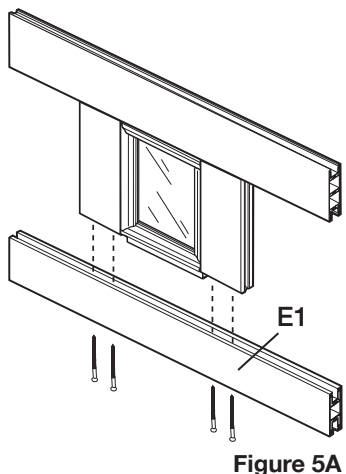

Figure 5A
Attach the Bottom Transom Rail (E1). Insert 2 of the 4" screws (Z) into the large holes in the rail until fully inserted. Repeat with the other 2 screws (Z). Line up the extrusion holes in the transom stiles with the screws and tighten until flush and secure. Do not over tighten. See Figure 5A.